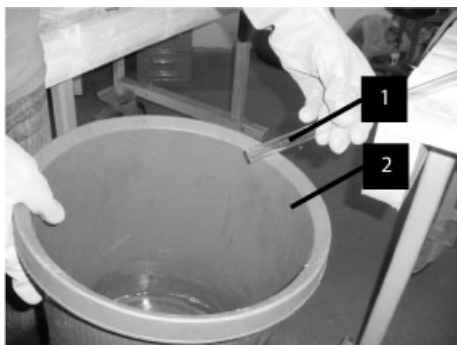

Fig. 58
5. By use of the level indicator (Fig 58/1) collect the water in a suitable container. The drained water must be disposed of according to the local regulations and must not be reused.